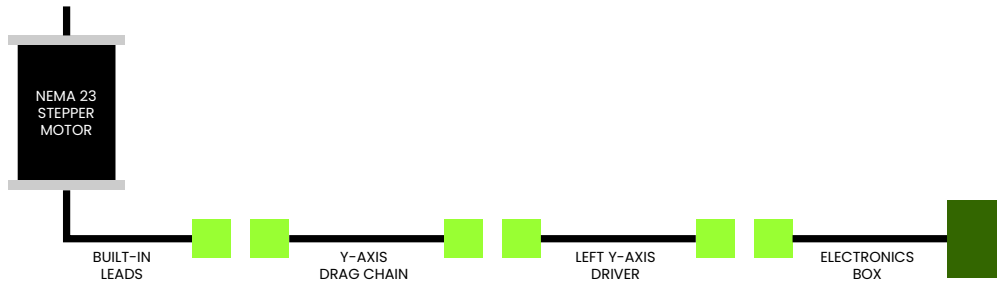

Figure 43: Cabling stages for the X-Axis motor.
The cabling for the X-Axis motor consists of providing it with power from the electronics board to the motor itself. The cabling should be done in such a way that its parts are located in the different major components. Figure 43 presents the cabling stages for the X-Axis motor. A total of three (3) 4-pin connectors and 3250 millimeters of 4-phases cable are needed in order to execute the X-Axis motor cabling. Table 3 presents the procedure for cabling the X-Axis motor.